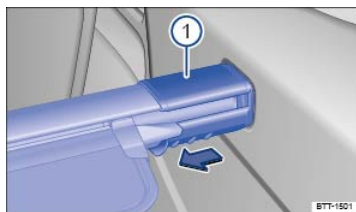

Fig. 188 In the luggage compartment: Removing the luggage compartment cover.
- Push the retainer for the luggage compartment cover \Rightarrow Fig. 188① in the direction of the arrow.
- Push and hold the retainer for the luggage compartment cover \Rightarrow Fig. 188① in the direction of the arrow.